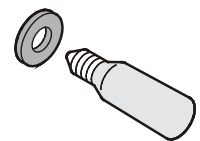

Figure 17
3. Remove the defective lamp. Make sure the seal (**Fig. 17**) is placed on the new lamp before installing it.